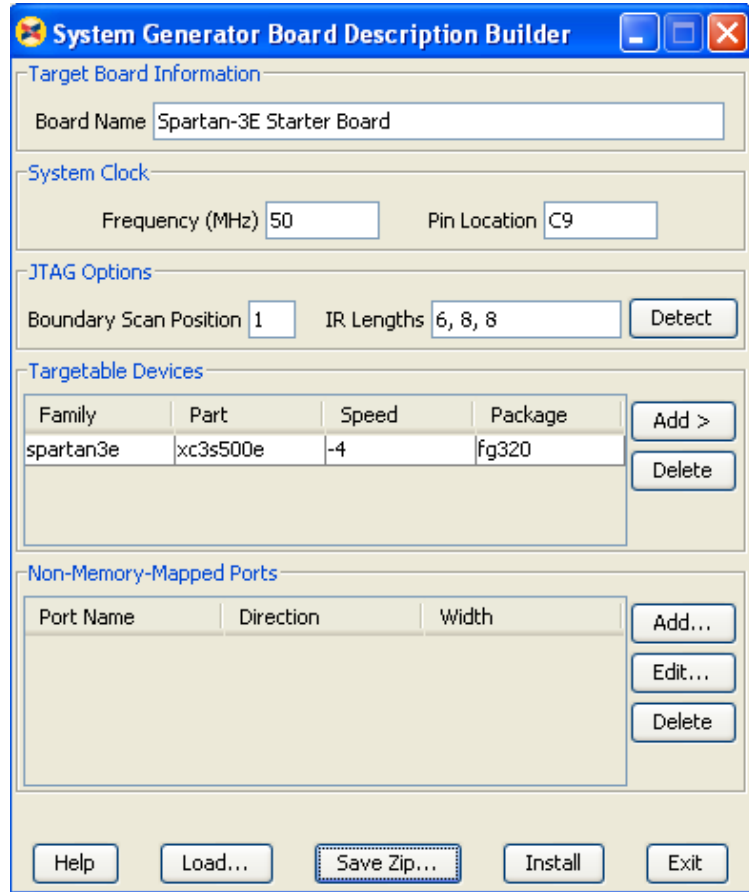

Figure 20: Configure System Generator for HW/SW Co-Simulation - Setup the NEXYS3 Board
- The **System Generator Board Description Builder** dialog box is used to configure a new board to be used for Co-Simulation. For each board the following information is required to define the board for Co-Simulation using JTAG (See Figure 20):